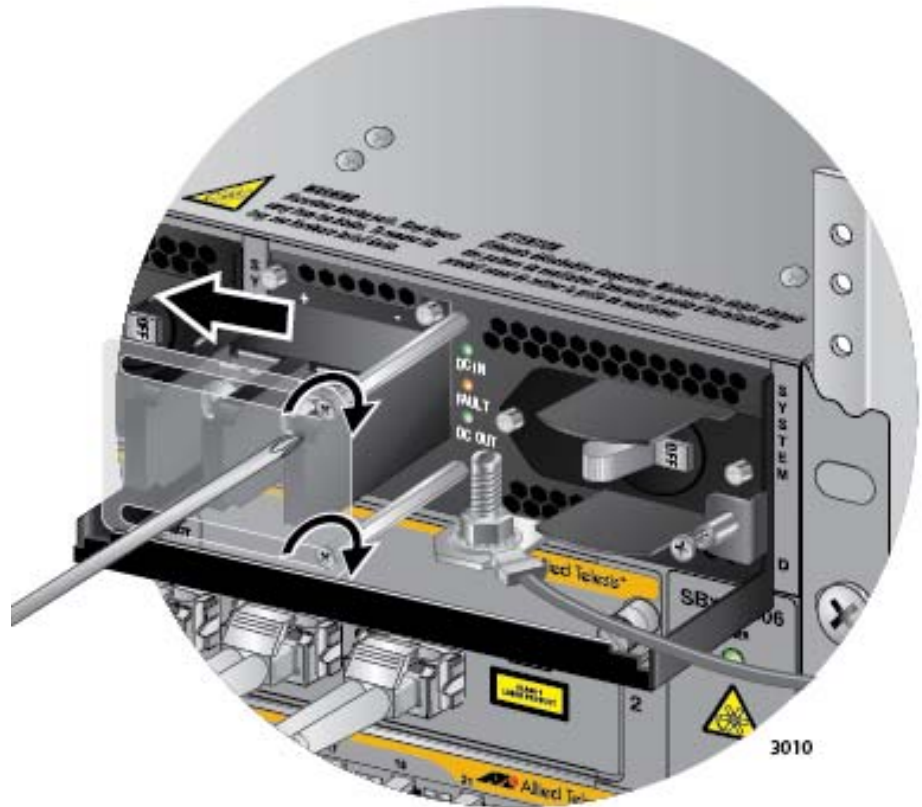

Figure 141. Closing the Plastic Cover
8. Slide the plastic cover to the left and lightly tighten the two screws to secure it in place. Refer to Figure 141 on page 225.